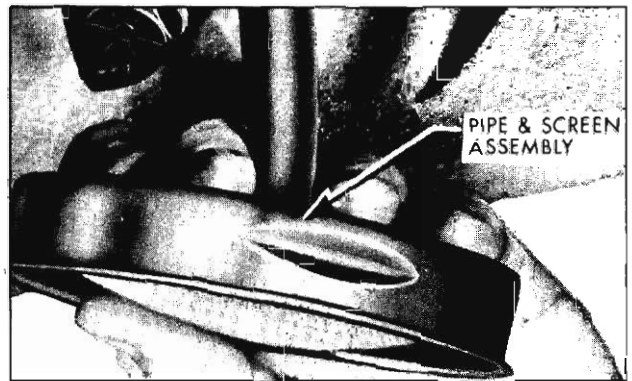

Fig. 3-122A Oil Pump Pipe and Screen Assembly
4. Remove oil pan bolts and lower oil pan enough to remove oil pump pipe and screen to cylinder block bolts. (Fig. 3-122A)